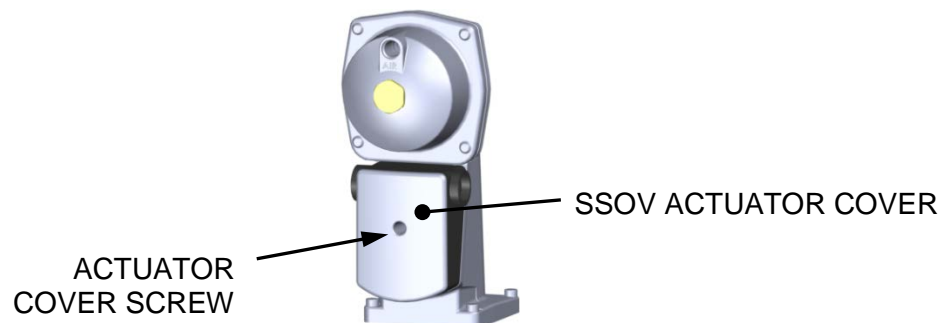

Figure 5-6. SSOV Actuator Cover Location
The SSOV shown in Figure 5-6 contains the **Proof Of Closure** switch. The **Proof Of Closure** switch circuit is checked as follows:
3. Locate the SSOV (see Figure 5-1) and remove its cover by loosening the screw shown in Figure 5-6. Lift off the cover to access the terminal wiring connections.